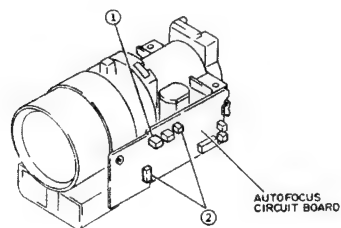

Fig. 2-104
- 1) Disconnect connector on the autofocus circuit board. (See Fig. 2-104)